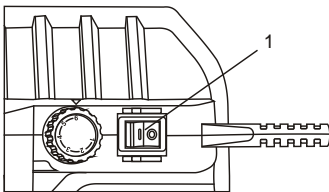

Fig. 5
To turn the sander ON, press the front of the ON/OFF switch (1) Fig. 5. To turn the sander OFF, press the rear of the ON/OFF switch.